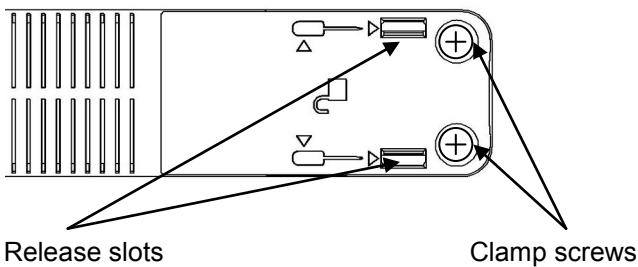

Fig 5: AT-SL-R-SA terminal cover
- Remove terminal covers by unscrewing the clamp screws and inserting a small flat-bladed screwdriver into the slots shown in the diagram below (Fig. 5).